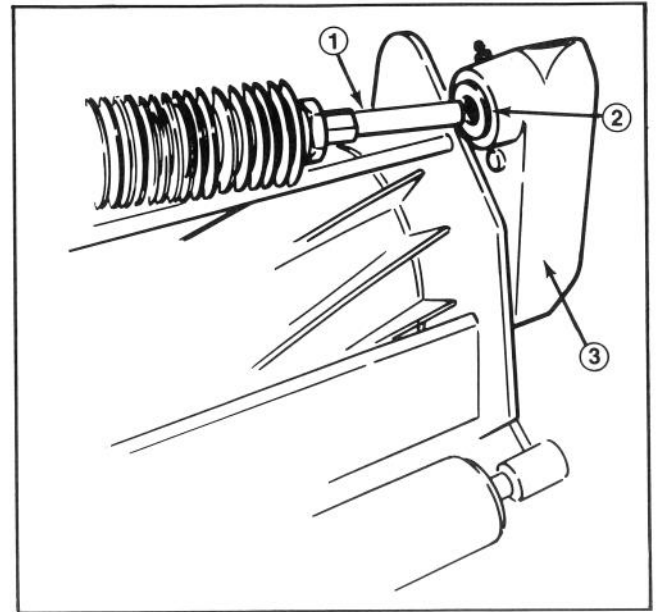
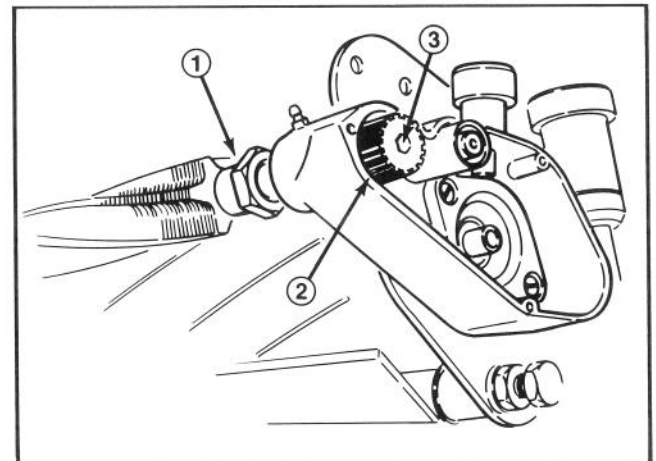

Figure 9
Figure 10
8. Slide the grooming shaft assembly into the bearing support in the left belt housing (Fig. 9). Using a 3/8" allen socket and torque wrench, install the driven pulley (lefthand thread) and torque to 29-32 ft-lb (Fig. 10).